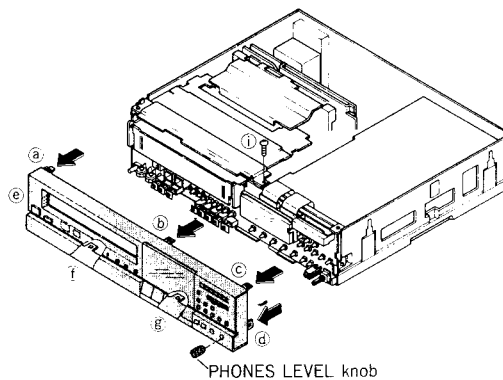

Fig. 2-3
- 4) Release the hooks (a, b, c, d, e, f, g) and remove the front panel in the direction of the arrows as shown in Fig. 2-3.